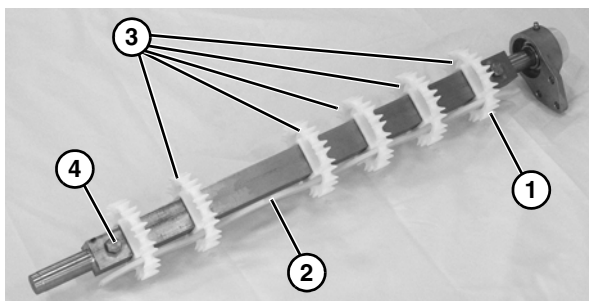

Figure 80
1. Slide the first sprocket (**Figure 80, item 1**) onto the spindle shaft.
2. Insert the sprocket alignment bar (**Figure 80, item 2**) into the first sprocket (**Figure 80, item 1**). Position the first sprocket with the notch in the sprocket alignment bar.
3. Install the remaining sprockets (**Figure 80, item 3**) making sure to position each sprocket with the next available notch in the sprocket alignment bar.
4. Secure sprockets in place with bolt (**Figure 80, item 4**).